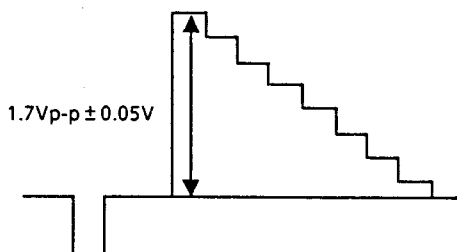

Fig. 4-11
- Keep the connection for step (13).
- Adjust VR34 so that the level of the Y signal becomes $1.7Vp-p \pm 0.05Vp-p$. (Fig. 4-11)